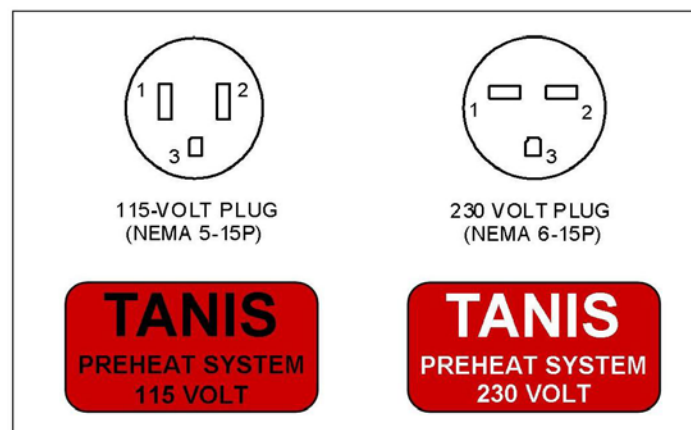

Figure 1 - Shore power plugs and placards. Placard that states at a minimum, *Tanis* and the system voltage requirement (115 Volt or 230 Volt) is acceptable.
9. Placard: Affix placard (Figure 1), or placard with equivalent stating at a minimum; "Tanis", and the system voltage near systems shore power plug.
- 4) [☐] Verify preheat system ground by checking for continuity between shore power plug ground, pin 3 (Figure 1), engine, and airframe.